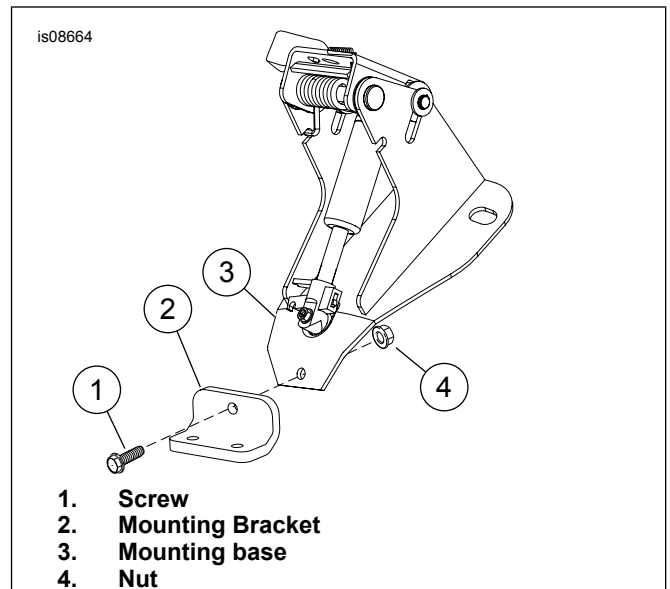

Figure 5. Install bracket
3. See Figure 5. Attach mounting bracket (2) to mounting base (3).
4. Install screw (1) and nut (4) as shown. Leave fasteners loose.